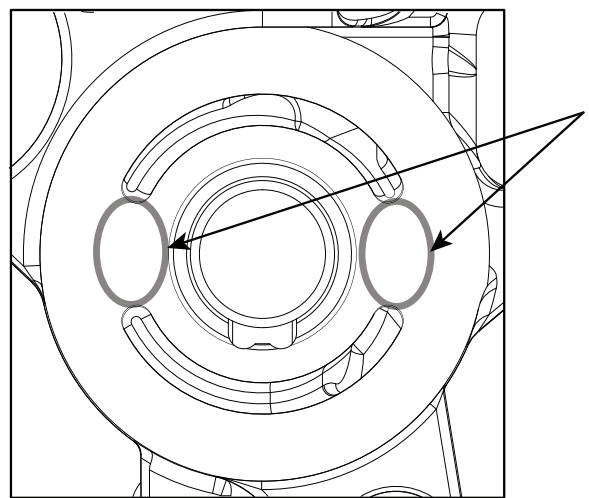

Figure 29, Motor Block Running Surface
7. Turn nut clockwise until mark "A" lines up with mark "B". (Figure 29)